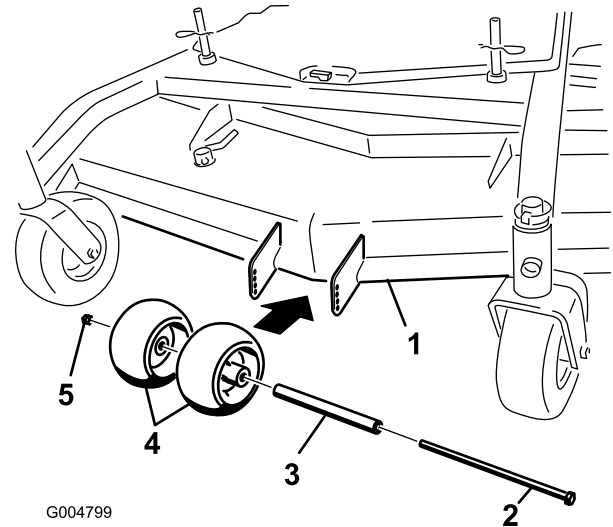
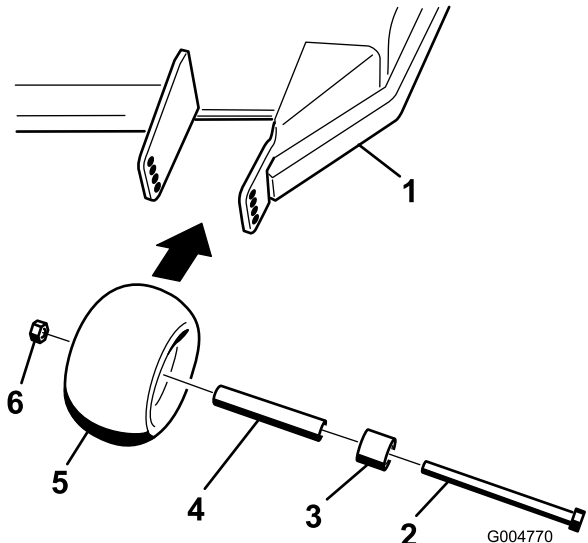

Figure 14
Figure 15
1. After adjusting height-of-cut, check the anti-scalp rollers so that there is a minimum of 3/8 inch (10 mm) clearance above the ground (Figure 14, Figure 15).
2. If adjustment is needed, remove the bolt, washers and nut (Figure 14, Figure 15).
3. Select a hole position so the anti-scalp rollers are a minimum of 3/8 inch (10 mm) off the ground (Figure 14, Figure 15).
4. Install the bolt and nut (Figure 14, Figure 15).